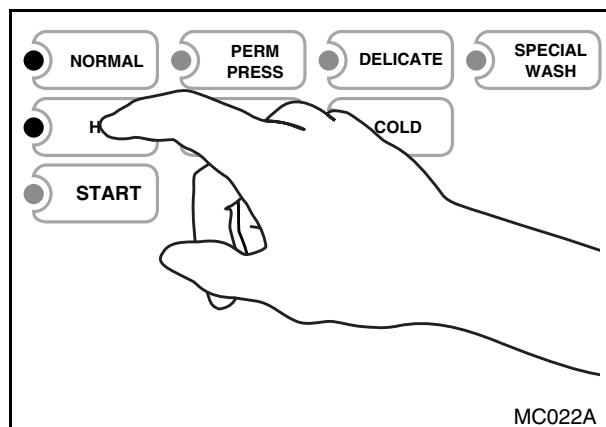

Figure 2-3
2. Press the desired wash temperature selection pad. See Figure 2-3. The LED next to the pad will light.